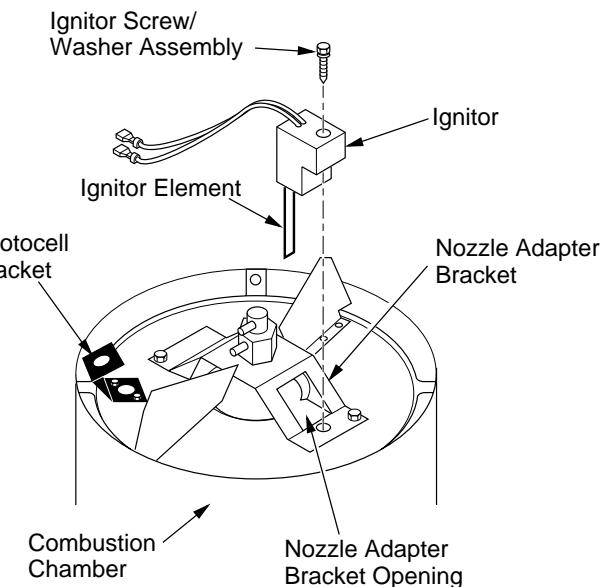

Figure 20 - Ignitor Replacement
6. Remove combustion chamber. Stand combustion chamber on end with nozzle adapter bracket on top (see Figure 20).
9. Carefully guide ignitor into opening in nozzle adapter bracket. Do not strike ignitor element. Attach ignitor to nozzle adapter bracket with screw using a 1/4" nut driver (see Figure 20). Torque .90 to 1.69 N·m (8 to 15 in-lbs) Do not over torque.